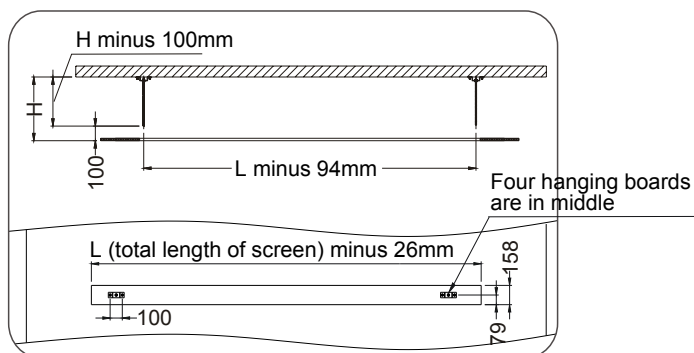

Figure 4
- 3** Trim the M12 threaded rods to the desired length, (H - height minus 100mm). Measure the distance between the mounting holes of the case and mount the threaded bars to the roof, (figure 4 & 5). The M12 Bars should be ready to secure the case once it has been prepared.